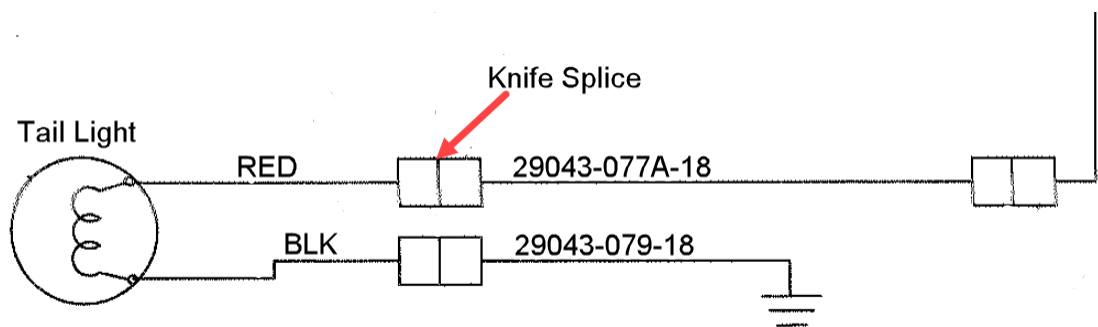

Figure 47-13
11. Remove knife splices on wires 29043-077A-18 and 29043-079-18. See Figure 47-13.